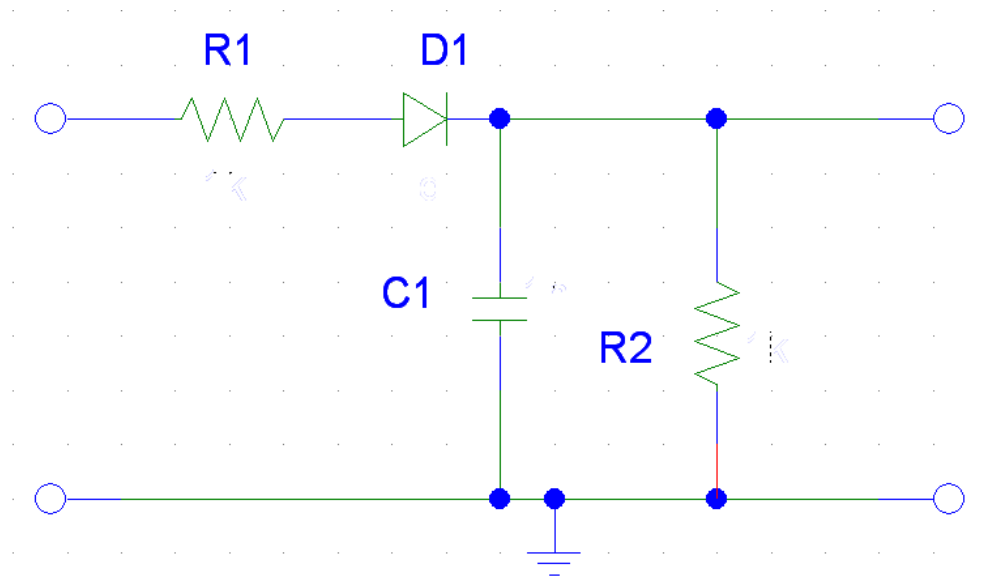

Figure 3: Envelope Detector Circuit.
1. Build the envelope detector circuit shown in **figure 3**. The diode is IN4148. Please keep